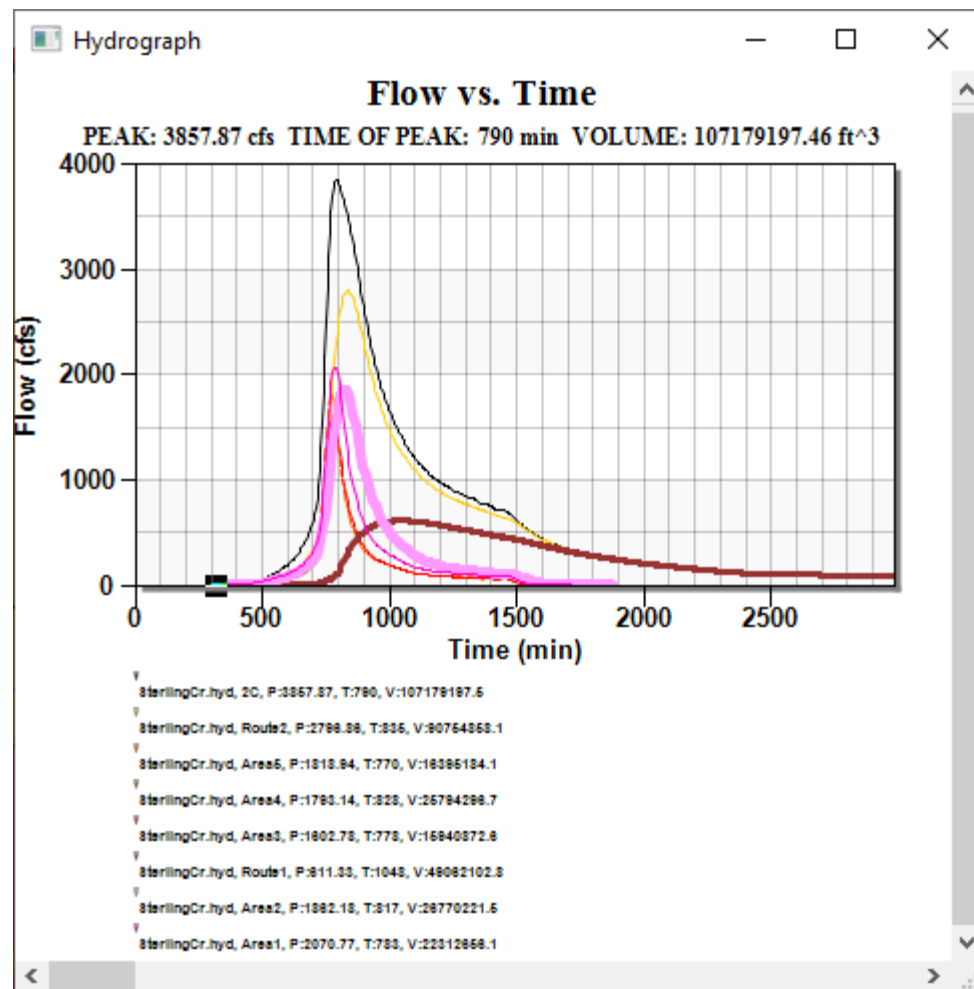

Figure 8 Zoomed into the hydrograph plots
4. Your hydrograph should look something like the plot shown in Figure 8.